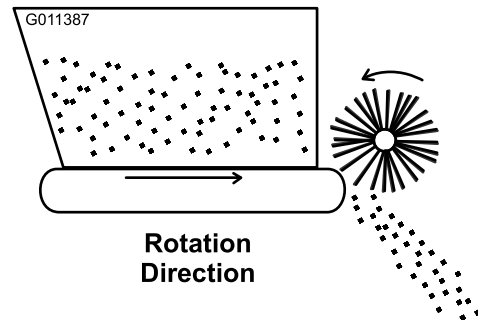

Figure 18
4. Start vehicle engine and test rotation of the conveyor and brush. Place remote hydraulics lever of Workman in the "run" position. The rotation should be as shown in Figure 18. If the rotation is backwards the quick couplers need to be reversed.